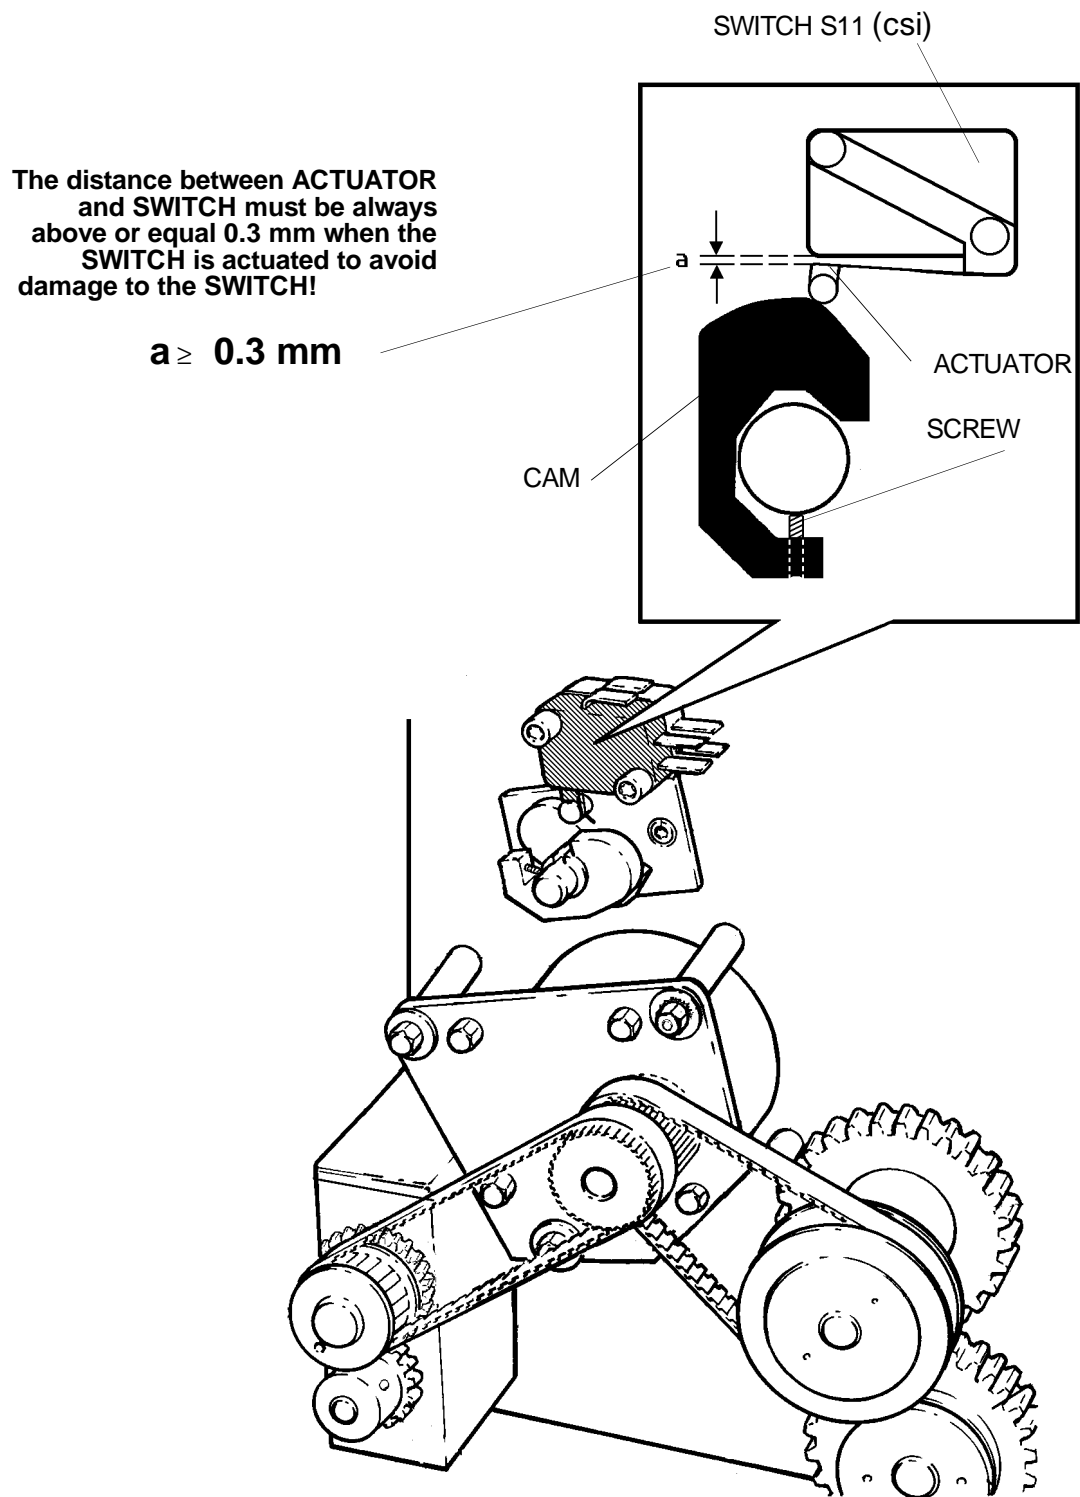

figure 32
- 13.3.** Adjust CAM for SWITCH S11 (CSI) that SWITCH S11 (CSI) just actuates tighten SCREW. See figure 32.